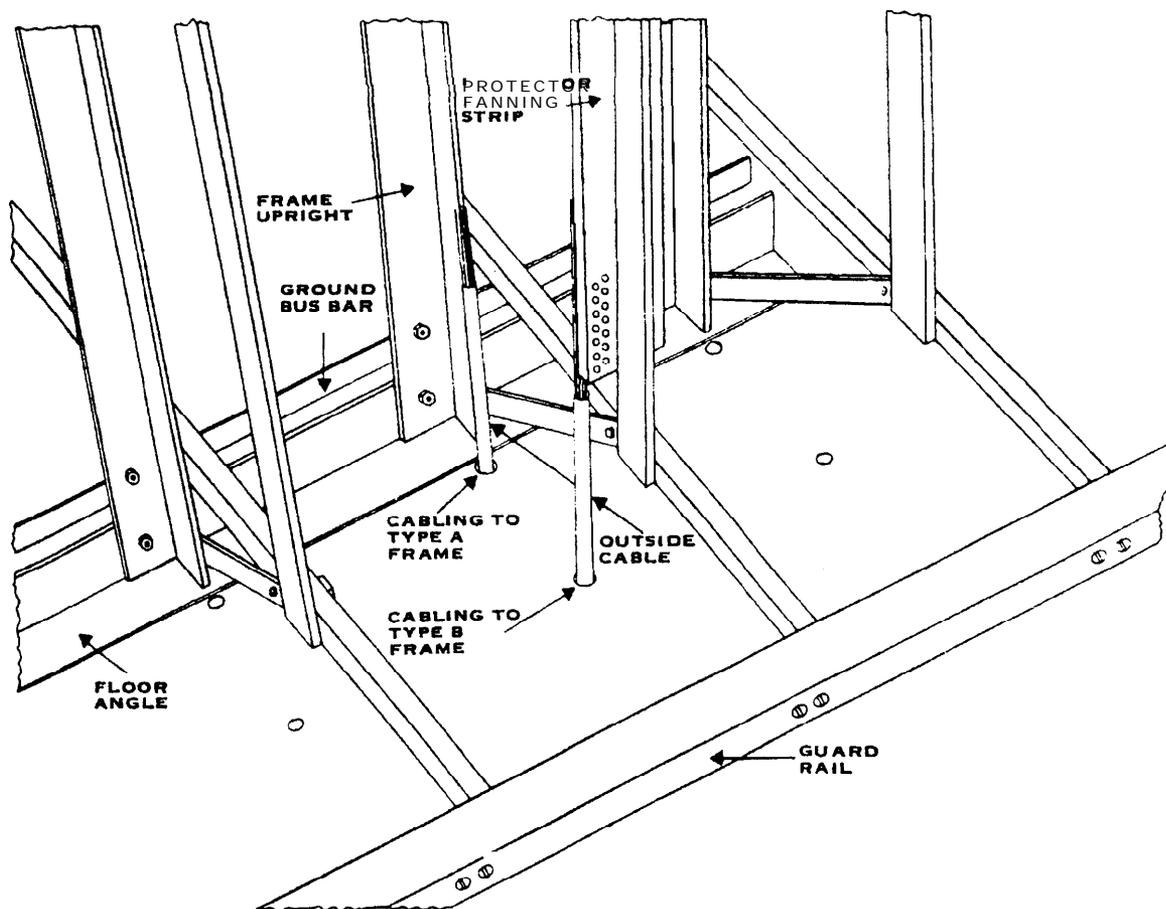

Figure 6. Locating Frame Over Cable Holes.
- (a) Where the outside cable goes to protectors on Type B frames, place the floor angles so the frame uprights allow the cable to go through the cable hole and straight up the vertical side of the frame upright just behind and to the left as viewed from the front (Figure 6) of the protector fanning strip.
on Type A frames, place the floor angles so that the frame uprights allow the cable to go through the cable hole and straight up and to the left as viewed from the front (Figure 6) of the vertical side of the frame near the floor angle.